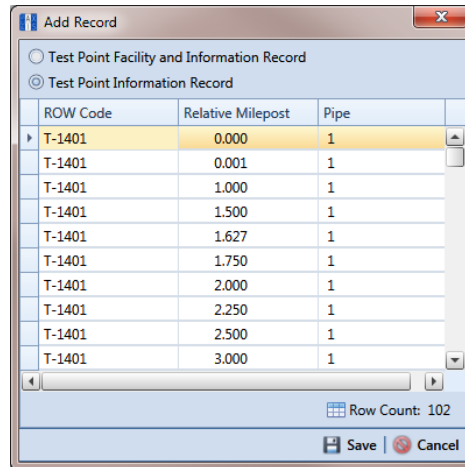

Figure 7-6. Add Record
- 6 Click **Add** to open the *Add Record* dialog box (Figure 7-6). Then continue with one of the following steps:
- a Click the option **Test Point Information Record**. Then select a facility in the list of facilities in the *Add Record* dialog box. For example, the facility at *Milepost 0.000* is selected in the previous figure (Figure 7-6, page 220).